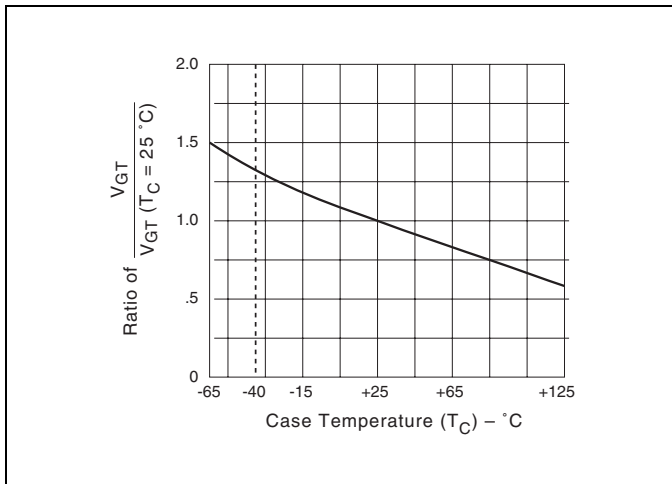

Figure E4.7 Normalized DC Gate Trigger Voltage for all Quadrants versus Case Temperature
- See Figure E4.7 for V_{GT} versus T_C .